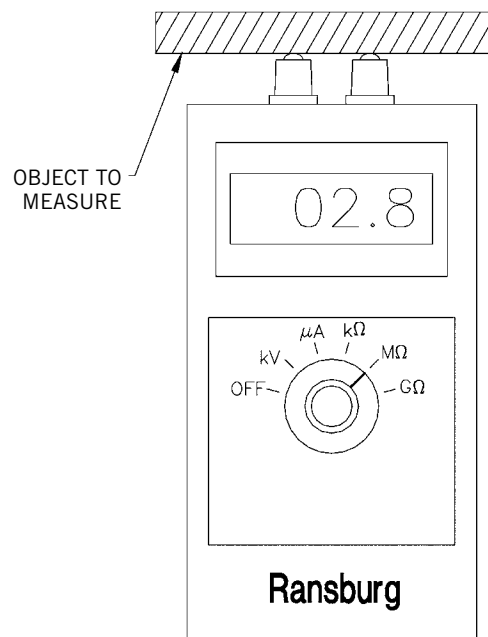

Figure 2: Sprayability Test Meter
1. Set the meter dial to the $M\Omega$ or $G\Omega$ scale (see Figure 2). Check the meter calibration by touching the metallic end of the two (2) probes on the meter to the stripped bare ends of a single 12" long wire (see Figure 2). (If desired the continuity of the wire may be verified by using a Volt-Ohm meter). If the meter reads zero, the meter is in calibration. If it does not